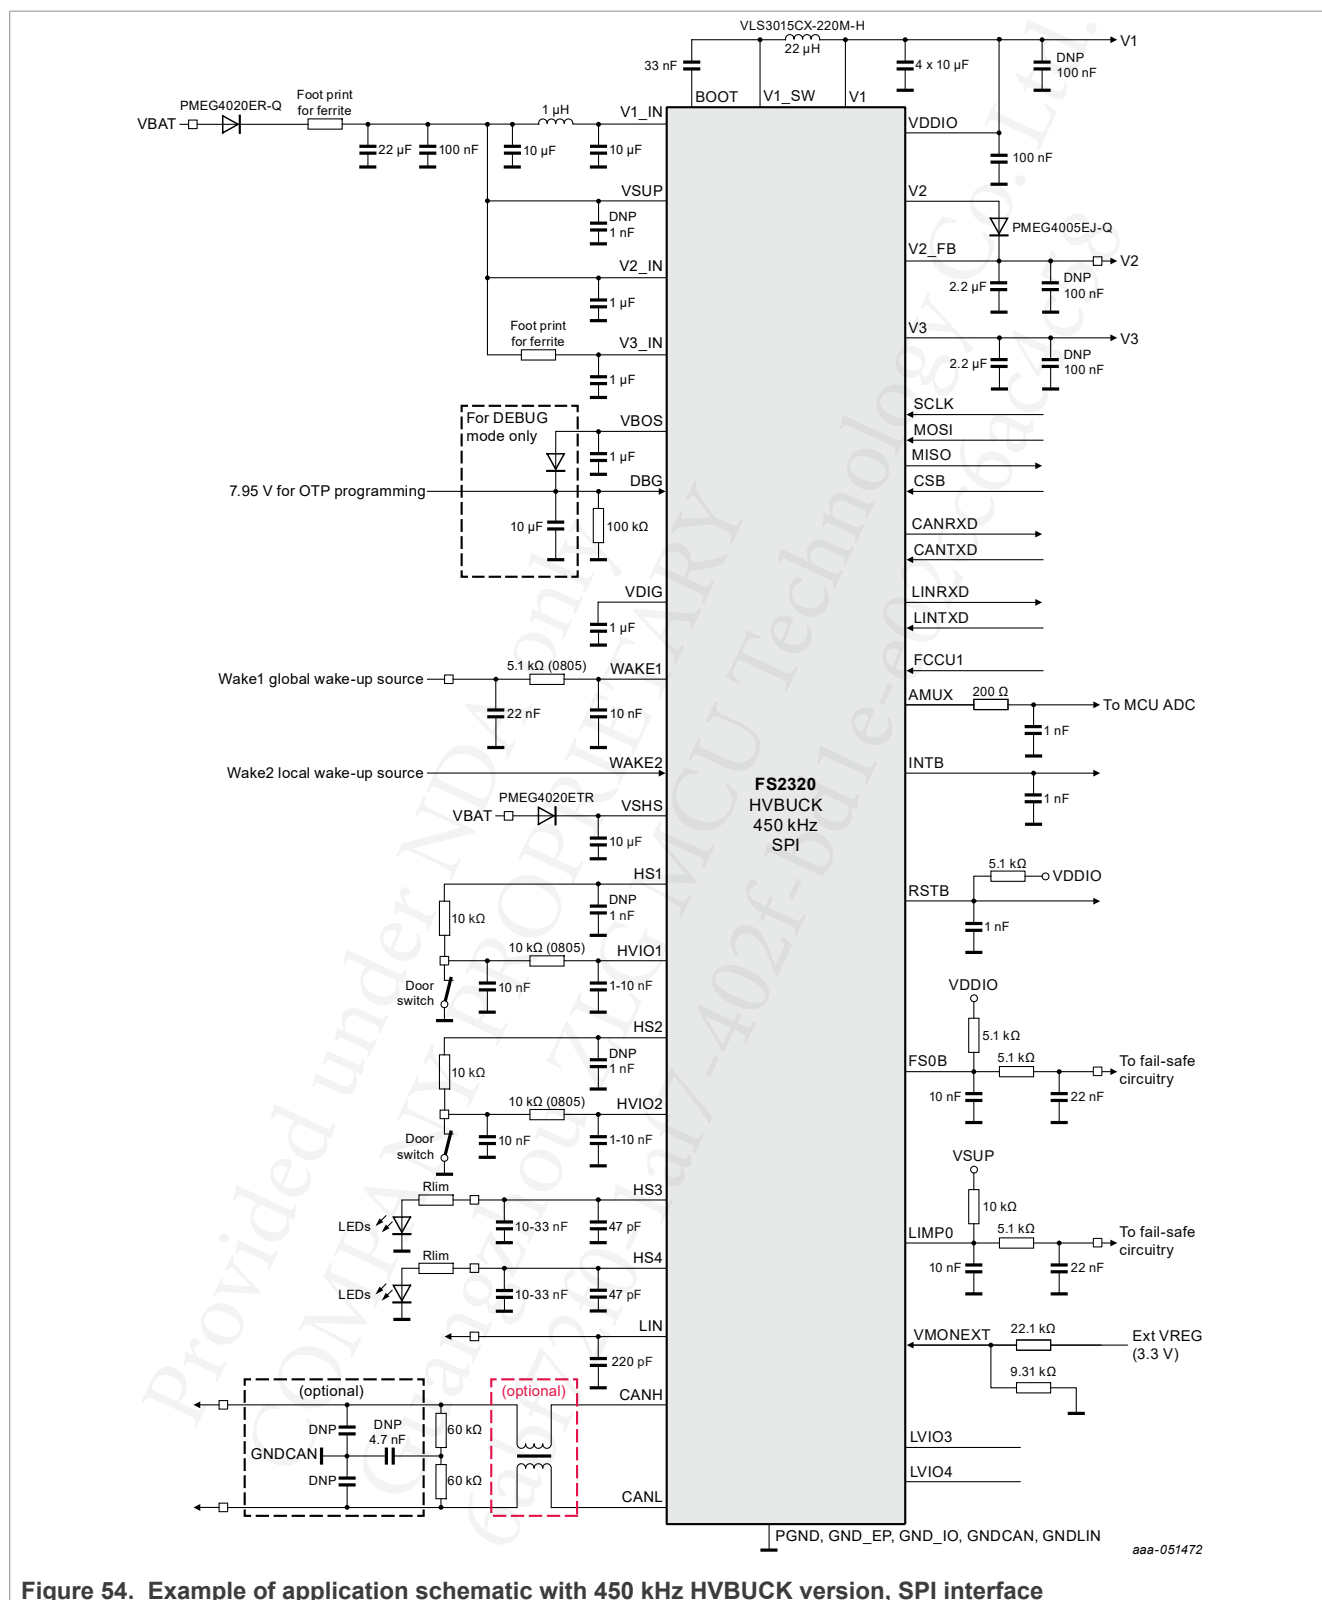
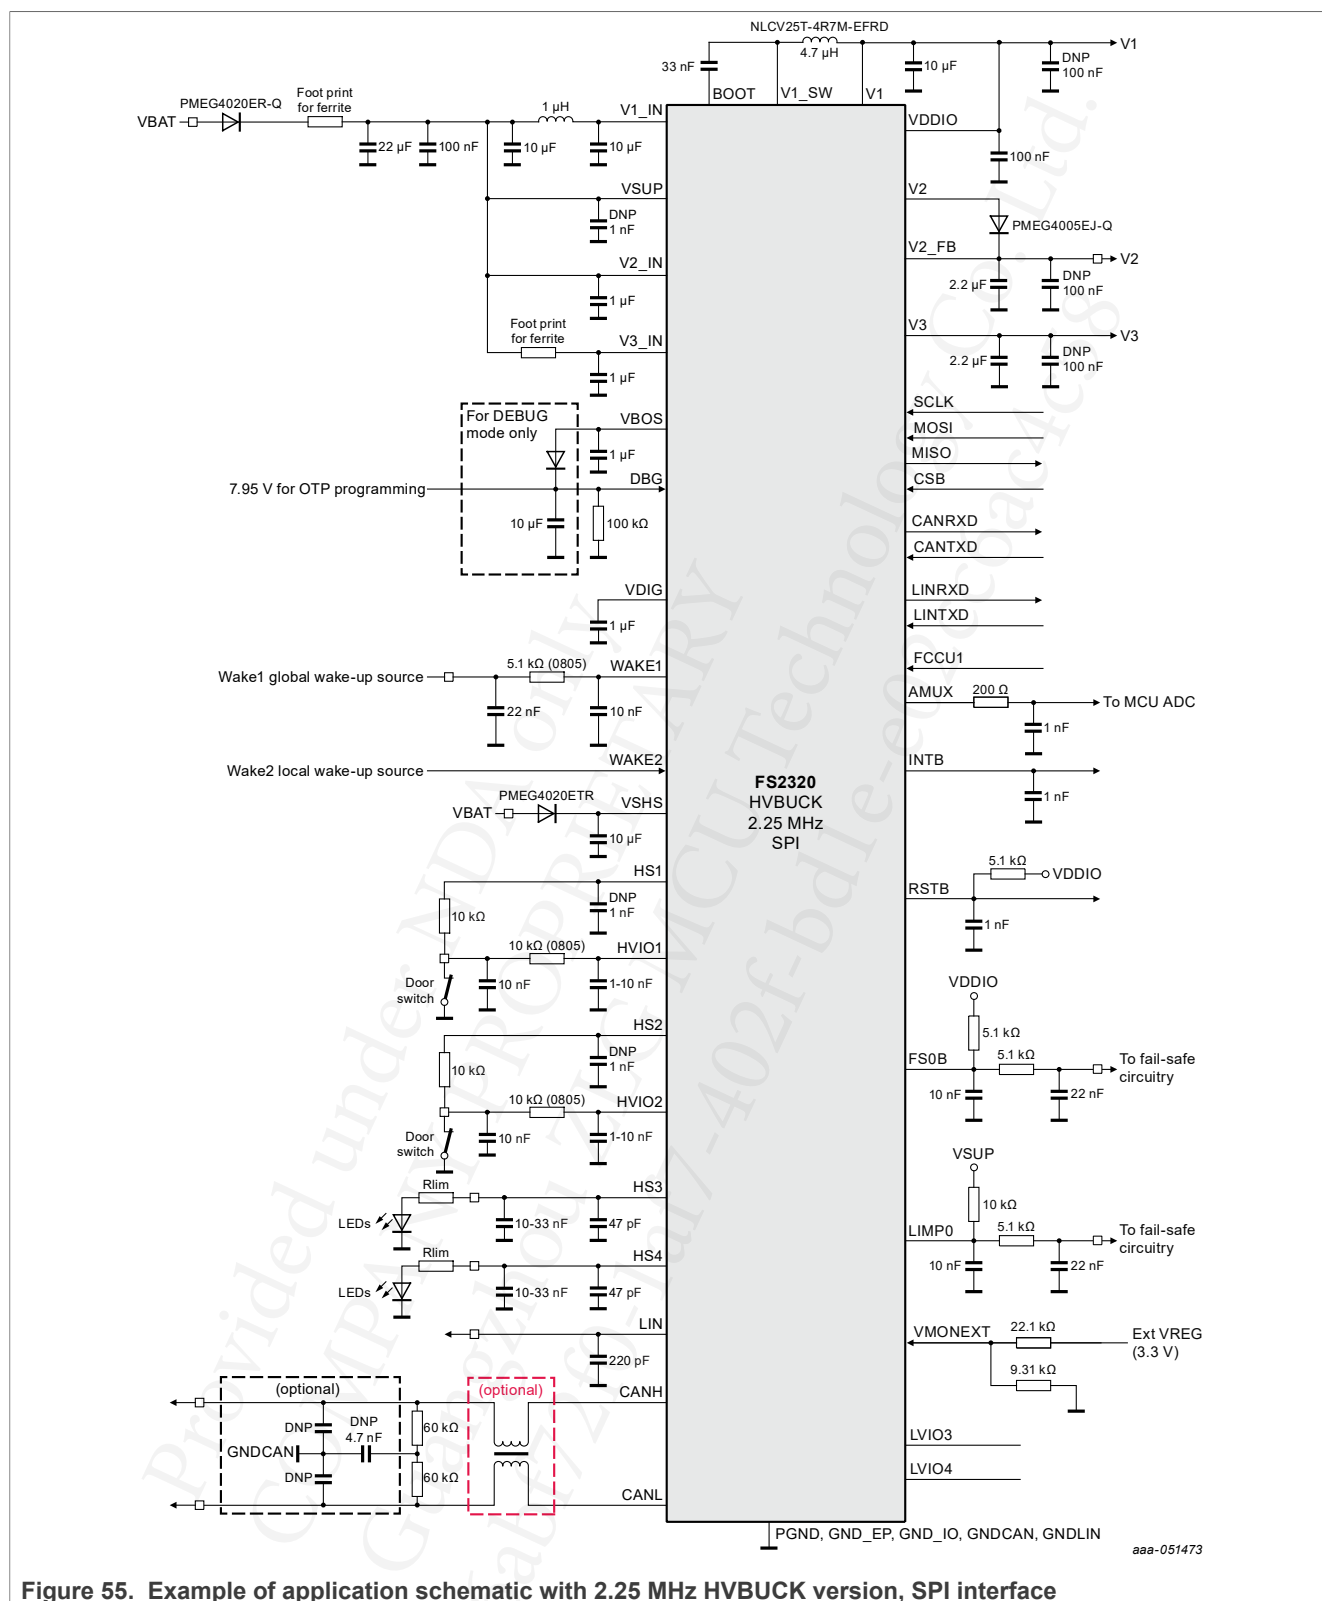

Figure 54. Example of application schematic with 450 kHz HVBUCK version, SPI interface
Figure 55. Example of application schematic with 2.25 MHz HVBUCK version, SPI interface
| Modifications: | <ul style="list-style-type: none"> Updated status to "Product" Global updates for style and grammar Updated Figure 1, Figure 3, Figure 4, Figure 7, Figure 11, Figure 13, Figure 14, Figure 54, Figure 55, Figure 56, Figure 57 Section 12.3; Section 12.6; Section 13.3.1; Section 15.3.1; Section 15.3.2; Section 17; Section 18.1.1; Section 18.1.1.4; Section 18.2: Updated text Features and benefits: Added "EMC compliance" section Updated Table 2; Table 32; Table 33; Table 247 Table 9: Changed I_{LPOFF_25} Max value from "40" to "50". Added Section 12.1 Updated section title from "Simplified functional state diagram" to Detailed functional state diagram. Updated appearance of Table 10. Removed section titled "EMC compliance" Adjusted position of Section 12.2. <ul style="list-style-type: none"> Added bullet item after "The FS23 will also wake up from LPON ..." beginning "Fail-safe mode ..." Table 10: Added column titled "Fail-safe". Section 12.7: Inserted Figure 15, Figure 16. Section 12.8: Updated item 5. Section 12.9.1: Updated first bullet item under "In HVBUCK use case only:" Table 12: Updated V_{BOS_POR} Min value from "2.5" to "2.45", updated "$I_{BOS_HP_LIM}$" to "$I_{BOS_LP_LIM}$". Section 13: Updated "The FS23 starts when $V_{SUP} > V_{SUP_UVH}$", " to "The FS23 starts when $V_{SUP} > V_{SUP_UV}$, ... " Table 14: Removed "With VBOS = 5 V" from Description of "V_{BUCK_IN}"; updated Descriptions and Min/Typ/Max values for "$I_{OC_AVG_PWM}$" and "$I_{OC_PK_PWM/PFM}$" Section 18.1.2: Updated Description of "$V_{CAN_OUT_DIFF_REC}$" from "RL = 2240 Ω" to "no load, C1 = C2 = CCANRXD = 0 pF" Table 28: Updated I_{OC_HSx} Max value from "350" to "380". Table 49: Updated title of third column from "$V_{xMON_OVDGLT_OTP}[1:0]$" to "$V_{xMON_OVDGLT_OTP}$". Table 50 <ul style="list-style-type: none"> Added "$V_{xMON_OVDGLT_OTP} = 0$" and "$V_{xMON_OVDGLT_OTP} = 1$" to Parameters for Symbol "T_{OV_DGLT}". Added "$V_{xMON_UVDGLT_OTP}[1:0] = 00$", "$V_{xMON_UVDGLT_OTP}[1:0] = 01$", "$V_{xMON_UVDGLT_OTP}[1:0] = 10$", and "$V_{xMON_UVDGLT_OTP}[1:0] = 11$" to Parameters for Symbol "T_{UV_DGLT}" Section 19.5.3: Added two bullets starting "Negative overcurrent ..." and "OC timeout ..." Updated appearance of Table 53. Table 80: Updated Bit 3 Description from "0 BUCK" and "1 BUCK" to "0 HVBUCK" and "1 HBUCK". Table 85: Updated four instances of "Leave" to "Exit". Table 143: Updated Bit 8 Descriptions values from "7.5" and "14" to "10.5" and "20", respectively. Table 173: Updated Bit 5 to 8 Description from "1011 64 ms (default value)" to "1101 256 ms (default value)". Table 191: Updated OTP_DEVICE_VER Bit 7 from "Reserved" to "KEY_OFFON_EN_OTP". Table 203: Updated Description for Bit 0 to 5. Table 231: Updated Description for Bit 5 from "1 Slot 1 and Slot 2 are bypassed" to "1 Slot 1 and Slot 2 are bypassed when waking up from LPON". Updated . Added "Reference" column to Table 72, Table 73, Table 190, | | | |